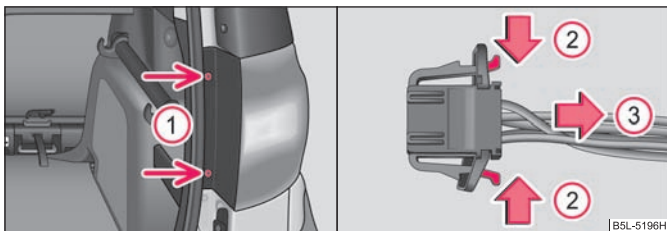

Fig. 194 Removing the rear light unit / disconnecting the plug connection
- Unscrew the light with the aid of the Torx wrench from the vehicle tool kit. The shorter side of the wrench is used for loosening the screws and the longer side for screwing the screws out completely (1) ⇒ fig. 194.
- Disconnect the plug connection by pressing the catches in direction of arrow (2) and by pulling them in direction of arrow (3) ⇒ fig. 194. ■
- Screw on the bulb ⇒ fig. 194 - left.